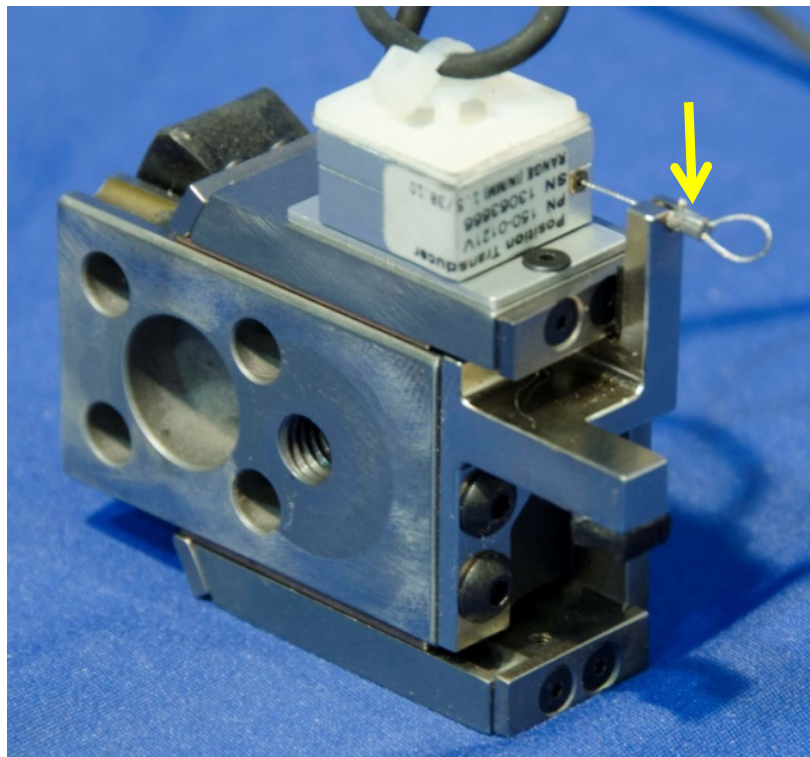

Figure 11-14. String pot in pot string holder
11.2.2.9 Place the wire into the slot on the Pot String Holder (472-5306) so that the looped end will not return back against the pot housing (Figure 11-14).